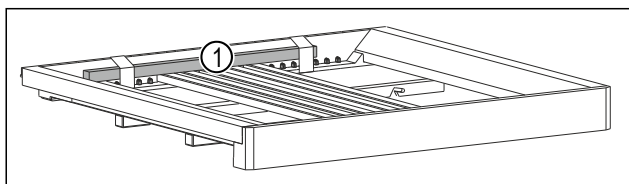

Fig. 7 \*
- ▶ Remove the wooden stick Fig. 7 (1)\*.